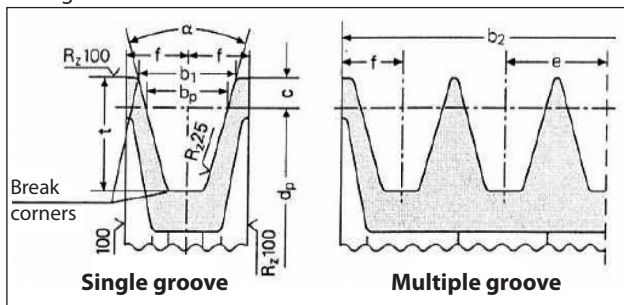

Fig. 10
- a) Use pulleys with V-belts with the size of the groove required/recommended by the manufacturer of belt used. In the absence of directions, follow Fig. 10 and the table in Fig. 11.